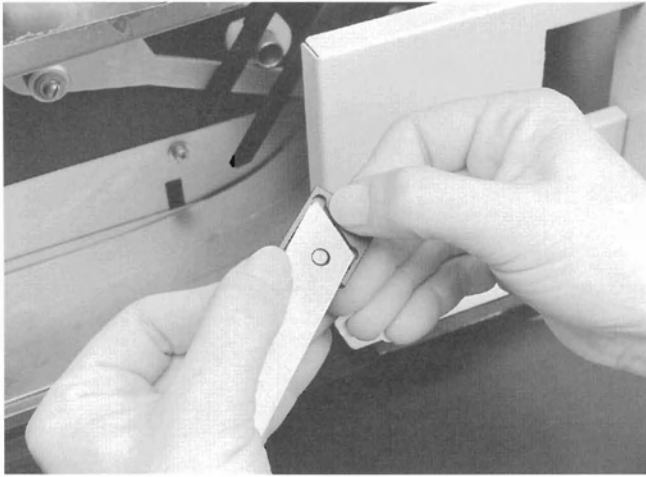

Figure 8-4
4. Insert a new blade into the recessed area of the safety handle by aligning the hole in the blade to the peg on the handle (Figure 8-4). Notice the blade fits into the handle in only one direction.